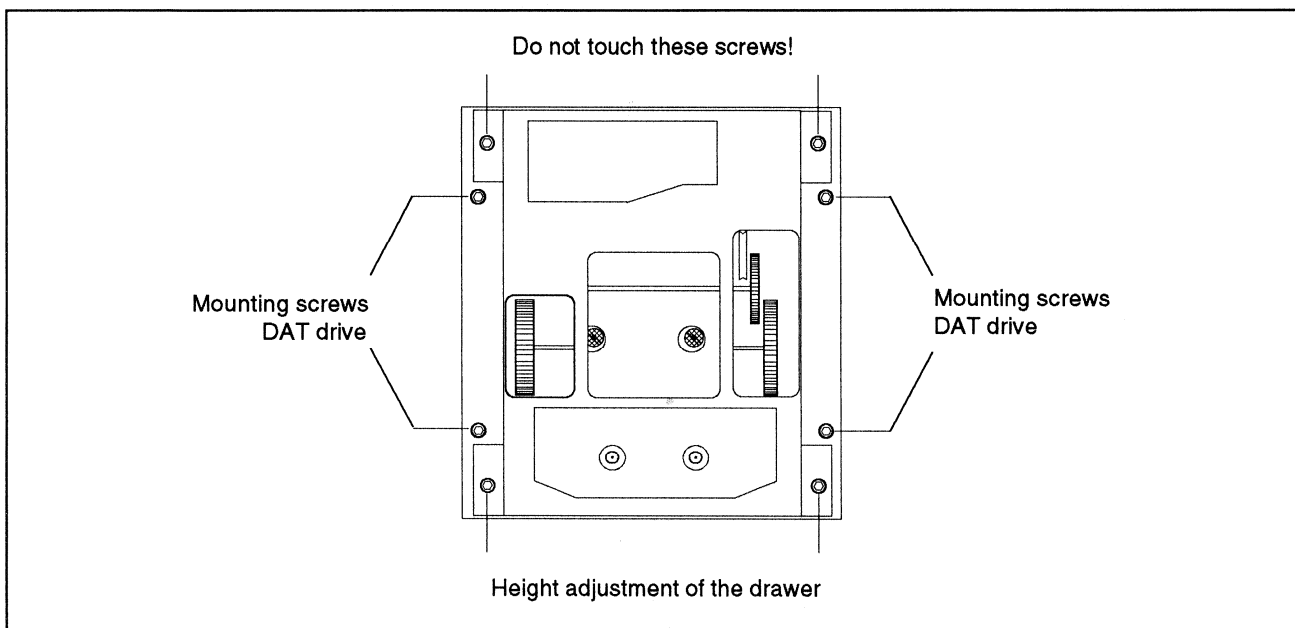

Fig. 4.1 Mounting and adjusting screws of the DAT drive.
- Unfasten the four mounting screws of the DAT drive (hex 2.5 mm) (see Fig. 4.1).
- With the two front screws (see Fig. 4.1) adjust the tray height in such a way that the drawer is exactly in the center of the compartment opening.